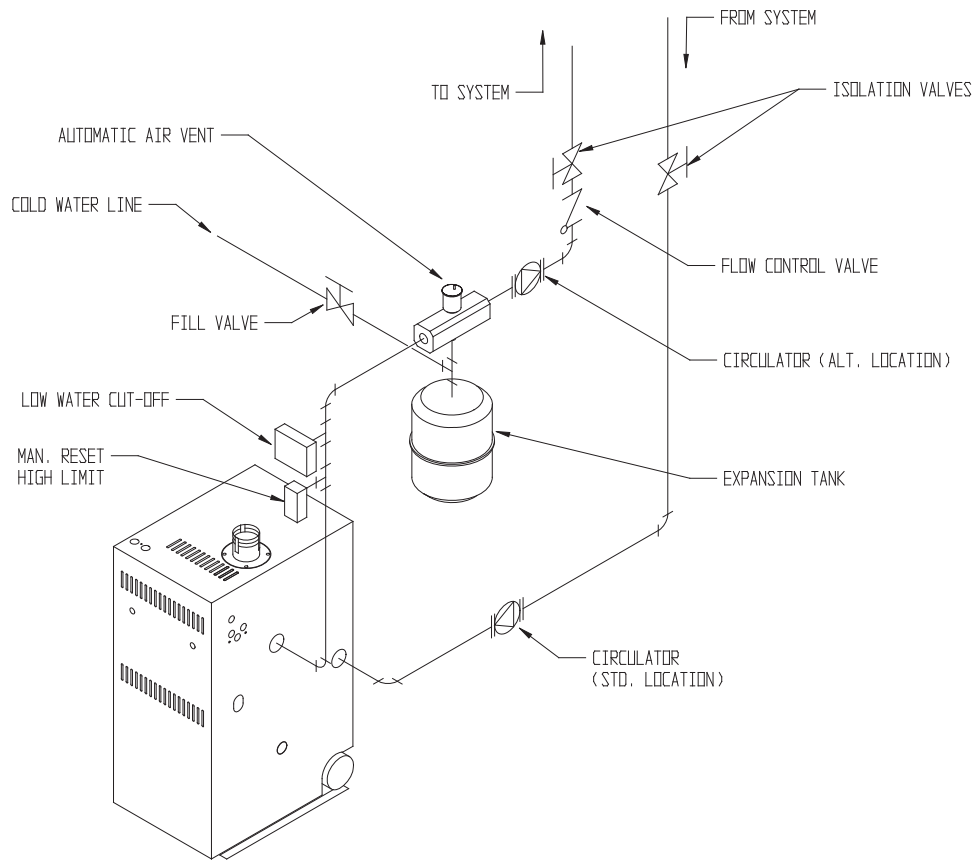

FIGURE 26: BASIC PIPING
Figure 26 shows typical boiler system connections on a single zone system. Additional information on hydronic system design may be found in *Installation of Residential Hydronic Systems* (Pub. #200) published by the Hydronics Institute in Berkeley Heights, NJ. The components in this system and their purposes are as follows:
- 2) Circulator (Required) – Although the circulator is shipped on the boiler return, it can be installed on the boiler supply. If the circulator is moved to the supply it should be positioned just downstream of the expansion tank as shown in Figure 26.